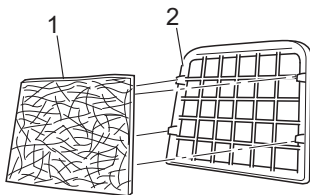

Fig. 25
6. Insert the new protective motor filter (Fig. 25/1) into the filter holder (Fig. 25/2) and push the holder back into the locking rails again.